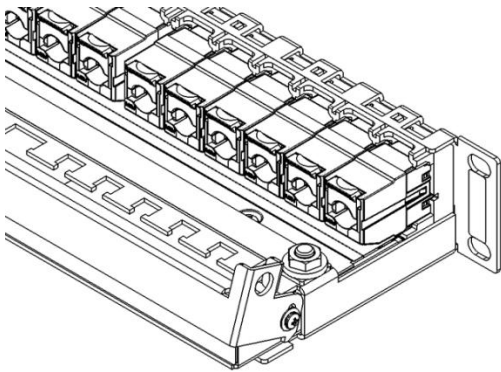

Fig. 14
1. Lift locking bar up and rotate locking bar toward the front of the panel to disengage the E-module from the panel (see Fig. 14).